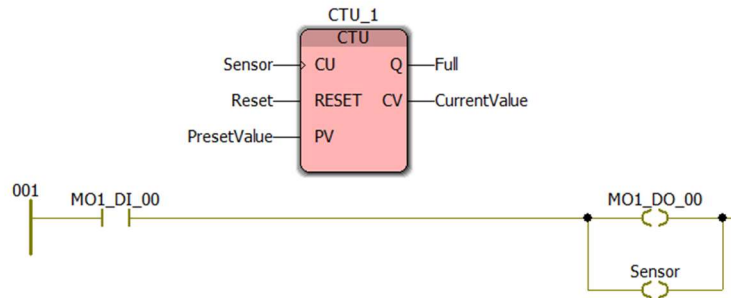

Figure 29: Final Product with Input Button and Output Light for 'Sensor'
- Using your prerequisite knowledge of ladder logic from the Rockwell software and using the buttons in the same row as the Insert ladder logic button from Figure 26, make the program look like Figure 29